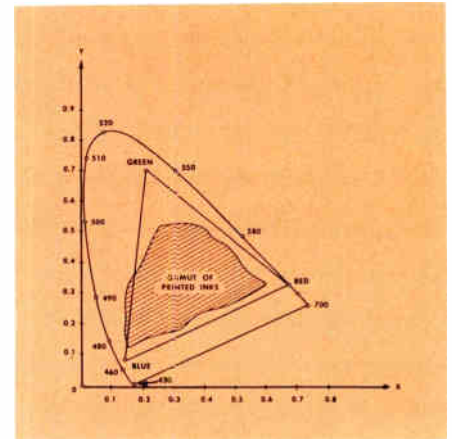

Fig. 14 — Gamut of Printed Inks
13. At first glance it certainly would seem desirable to have a fourth primary if it is going to add so much to the color fidelity. Further investigation, however, would show that a fourth primary would be economically unwise. The reasons can be most easily seen if a comparison is made between the gamut of colors in the three primary system and other known systems. Figure 14 shows a comparison of the television receiver primaries with the locus of maximum purities of pigments, dyes, and inks for a base of Illuminant C. It is easily seen by this that the television primaries can reproduce, except for a limited range of the blue greens, any object which gains its color from pigments, dyes or inks. The only conclusion that could be drawn from this comparison is that a fourth primary would add little for the increased cost and complexity involved.